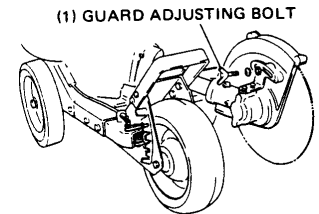

Fig. 15
- Install guard adjusting bolt with washer 8 and bent washer. (Fig. 15)